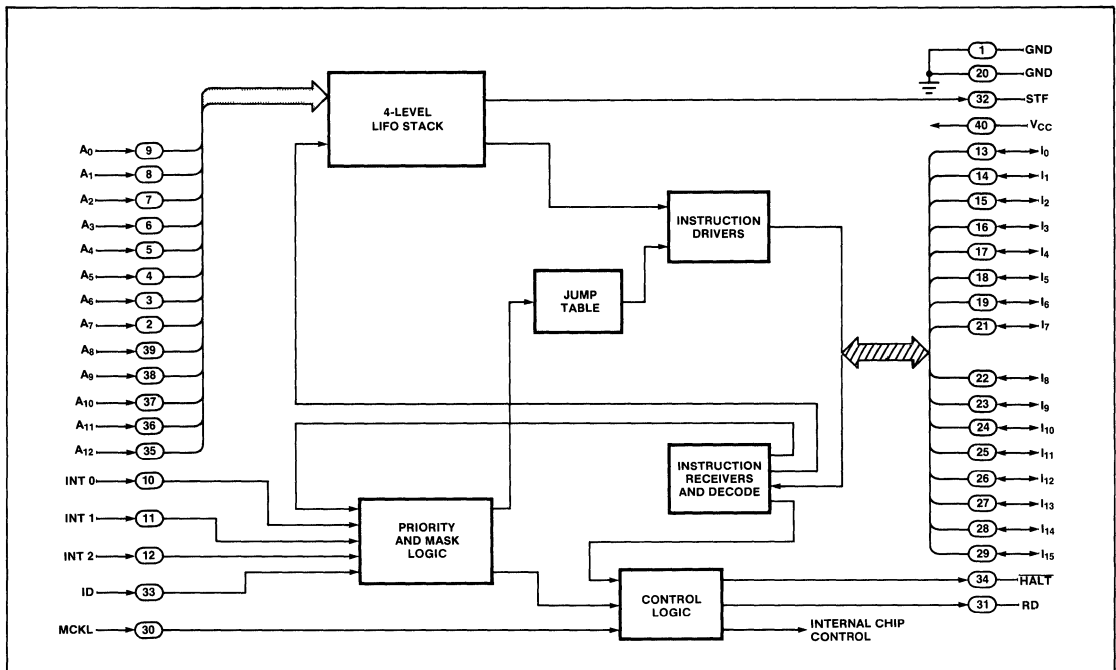

Figure 2. 8X310 Interrupt/Control Coprocessor — Functional Block Diagram
Function 1: Provides a means for the 8X305 MicroController to respond to interrupt requests by diverting the program flow of the 8X305 MicroController to the proper interrupt service routine or, in the case of a subroutine, the ICC stores the return address in the 4-level LIFO stack (Figure 2).
An interrupt is requested when any one of the ICC input pins INT 0, INT 1, or INT 2 undergoes a low-to-high transition; this request is temporarily stored in an internal edge-triggered latch that corresponds to the affected interrupt input. The interrupt request latches are part of the Priority and Mask Logic shown in Figure 2. Unless masked or otherwise disabled, the ICC samples these latches once each instruction cycle. Any or all of the latches may be set when sampled by the ICC; however, only the interrupt of
- Address of the instruction that would normally be executed next is pushed into the 4-level LIFO Stack (Figure 2) for subsequent return to the main program.